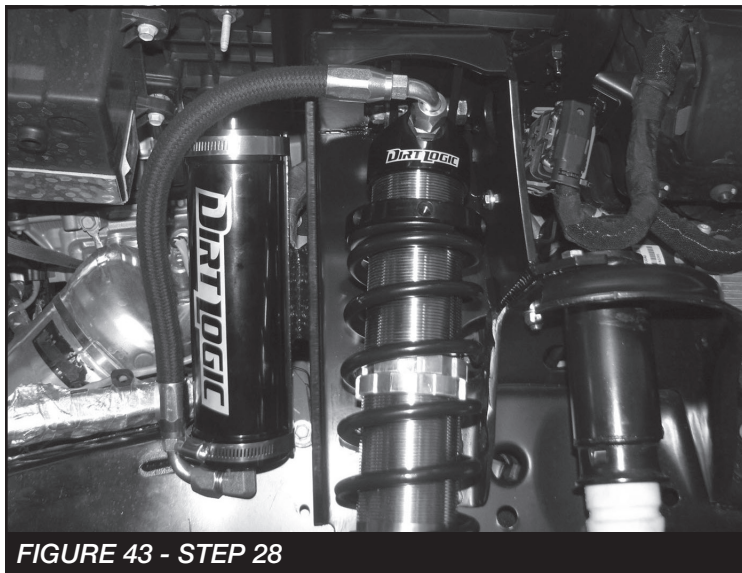

FIGURE 43 - STEP 28
28. Install the Resi to the upper coilover mount/ Resi mount using the supplied clamps. **SEE FIGURE 43 FOR REFERENCE.**